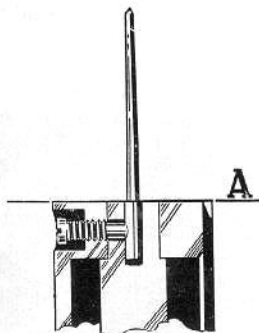

Fig. 92. Fitting the metering needle
- Fit the metering needle (10), see Fig. 92. The cylindrical section of the needle should be flush against the valve.